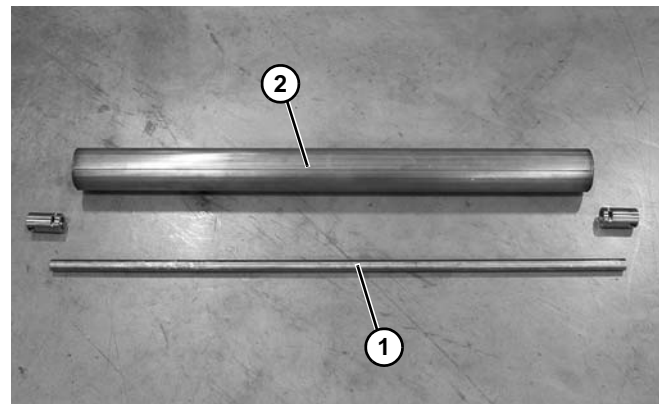

Figure 100
10. Remove the shaft (**Figure 100, item 1**) from the tensioner pulley (**Figure 100, item 2**).